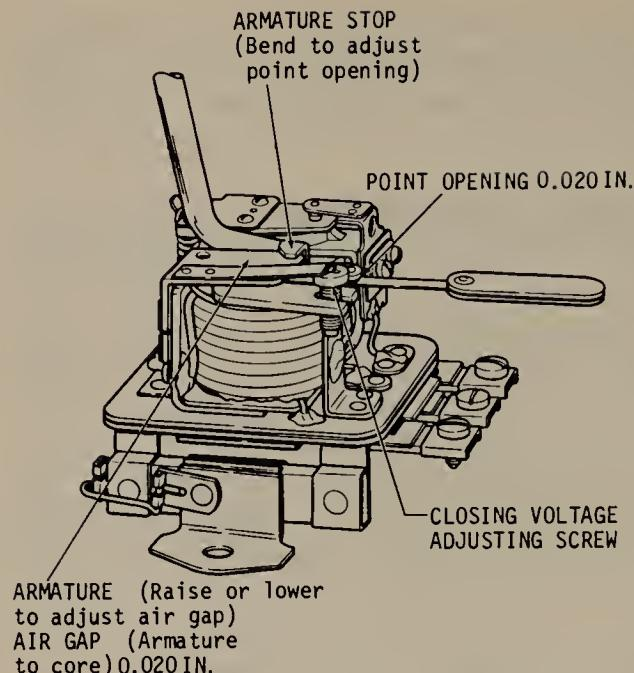

FIGURE 13.19 Cutout relay adjustments. (Kohler Company.)
a. *Air Gap.* See Fig. 13.19. Put a finger on the armature directly above the center of the winding and press the armature down until the points just close. Measure the air gap between the armature and the center of the winding core. On the model shown, this should be 0.020 in. Adjust by loosening the two screws attaching the armature hinge to the frame and raise or lower the armature assembly.
b. *Point Opening.* Release the armature and measure the point opening, as shown in Fig. 13.19. On the model shown, this should be 0.020 in. Adjust by bending the upper armature stop.
slowly increase its speed, noting the increase in voltage. Watch for the points to close and read the voltage at this instant. The voltage should be adjusted, if it is not correct, by turning the closing-voltage adjusting screw (see Fig. 13.19). Turning it up to increase the tension of the flat spring increases the closing voltage. Recheck the closing voltage after each adjustment by slowing the engine until the points open, and then increasing the speed again.
Refer to the manufacturer's instructions for the specific model under test so you will know how to connect the meters to make the test. Adjust by bending the lower spring hanger down to increase the voltage setting, or up to lower the voltage setting. Some models have a screw adjustment, similar to that shown in Fig. 13.19 for the cutout relay. Turning the screw in or out changes the voltage setting.